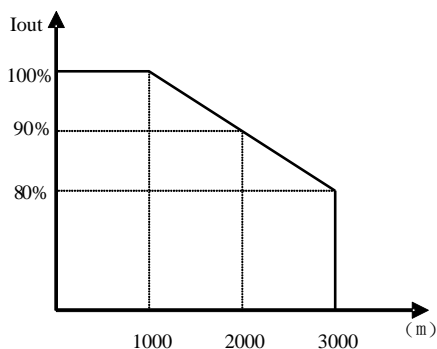

Fig 1-1 Derating drive's output current with altitude
- ◇ Derating must be considered when the drive is installed at high altitude, greater than 1000m. This is because the cooling effect of drive is deteriorated due to the thin air, as shown in Fig1-1 that indicates the relationship between the elevation and rated current of the drive.
Taking for instance the E2000-Q series 1.5kW inverter with 3-phase input, its nameplate is illustrated as Fig 1-1.